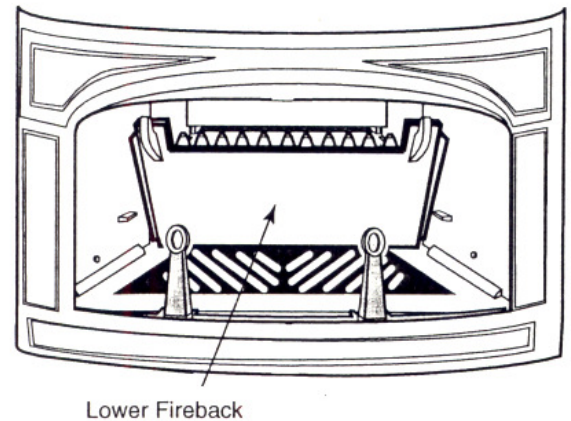

Fig. 3 Remove Lower Fireback
5. Pry up and remove the left and right wedges. Pull the lower fireback forward and remove it from the firebox. You may need to lift it slightly to remove it. Slide the top of the lower fireback forward and simply lift it out of the firebox (Fig. 3).